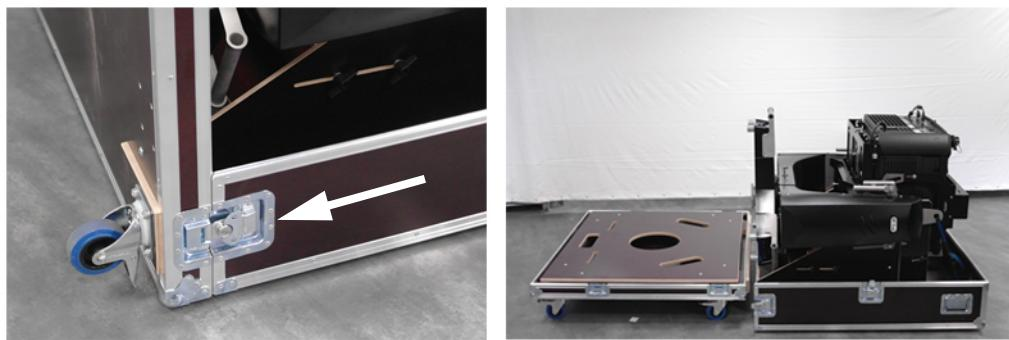

Figure 4-9 Remove Flight Case Base
5. Undo latches on flight case and separate the base. (**Figure 4-9**)